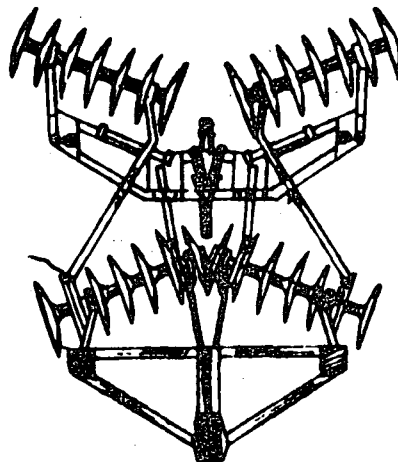

Fig. 2
- b) Place it in working position (Fig. 2).